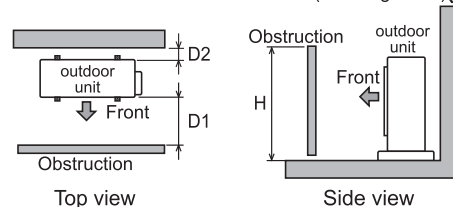

Fig. 2-4
■ When there is an obstruction at the front (discharge side)(Fig. 2-4)